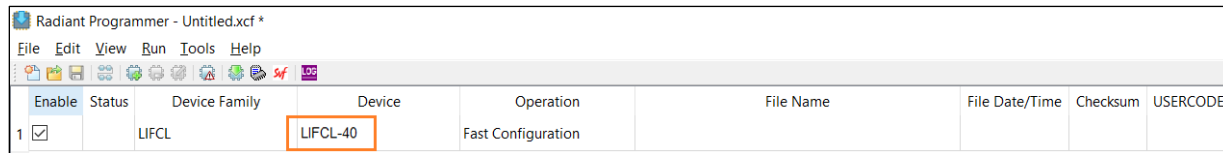

Figure 5.9. CrossLink-NX FPGA Device Settings
- If the Programmer settings do not match the settings shown in Figure 5.9 for CrossLink-NX, Figure 5.10 for Certus-NX, or in Figure 5.11 for CertusPro-NX select these settings manually from drop-down menu.